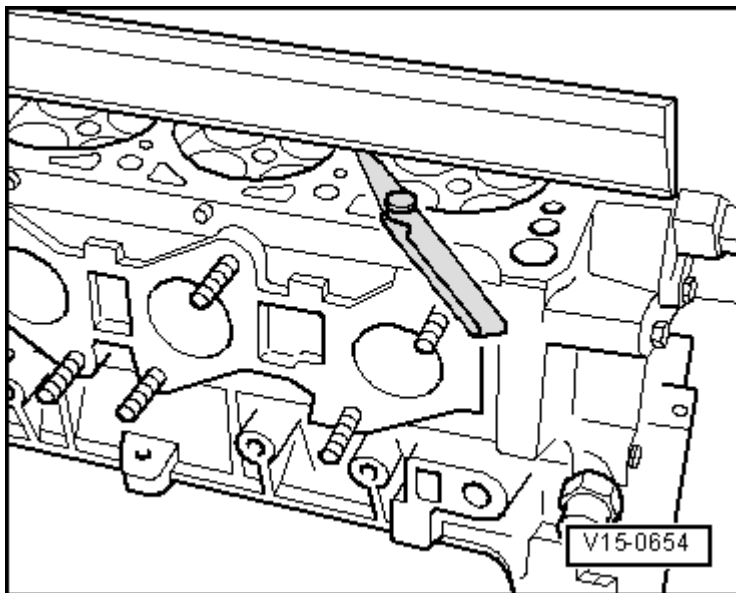

Fig. 3: Identifying Check Of Cylinder Head For Distortion
- Checking the cylinder head for warpage, refer to **Fig. 3**.